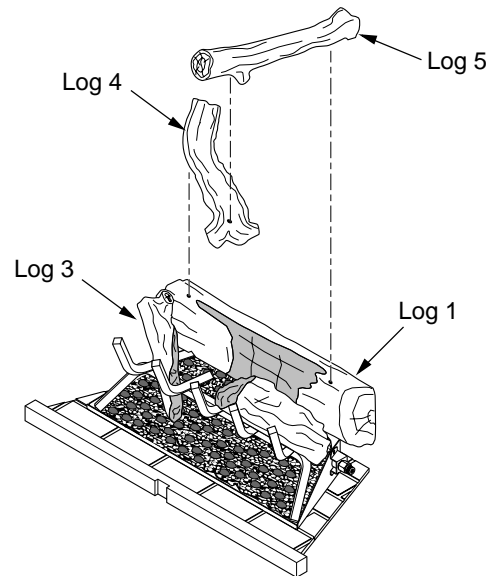
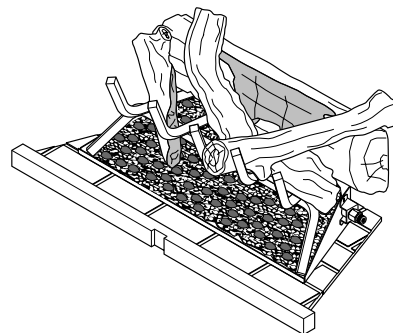

Figure 26 - Installing Logs 4 and 5
Figure 27 - Logs Installed
4. Insert peg on back of log 4 into hole on top left of log 1. Rest the front of log 4 on the grate as shown in Figure 26.
5. Insert peg on back of log 5 into hole on the top right of log 1 (see Figure 26). Rest the bottom of log 5 on grate as shown in Figure 27.